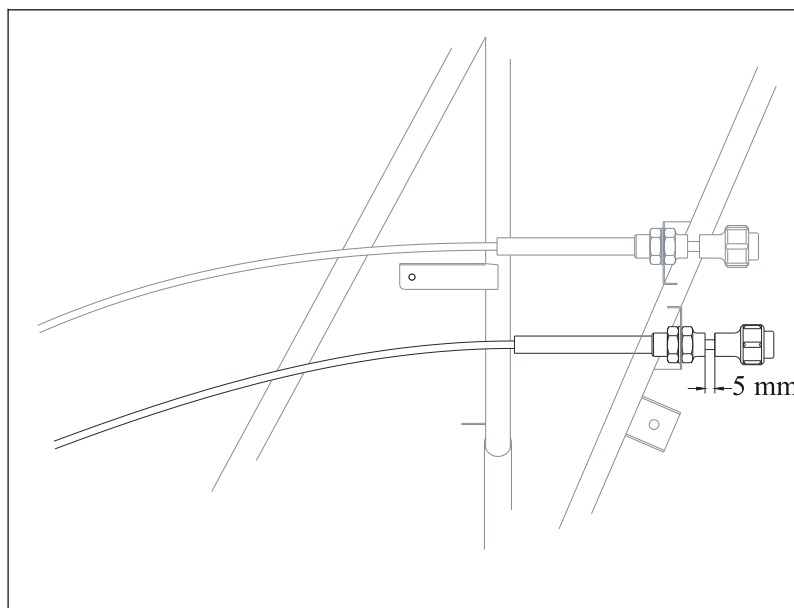

Figure 7 *Over-travel at Mixture Control Unit,*
- 2 Check that the travel stop at the mixture control lever is reached, and the over-travel of 5mm [3/16"] (tolerance +/-1 mm [1/32"]) is ensured at the mixture control knob (see Figure 7).